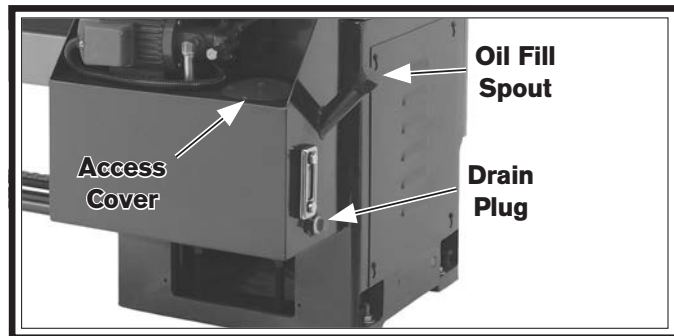

Figure 100. Headstock oil fill spout and drain plug.
8. Remove the oil fill spout cover, place the catch pan under the oil tank drain plug (see **Figure 100**), and remove the drain plug to empty the tank.
9. Clean away grime and debris from the oil tank access cover (see **Figure 100**), then unthread the four cap screws to remove the cover.